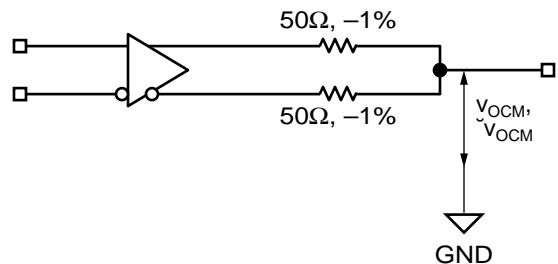

Figure 4. LVDS Common Mode Measurement
**Note 8.** Measured as per Figure 4.